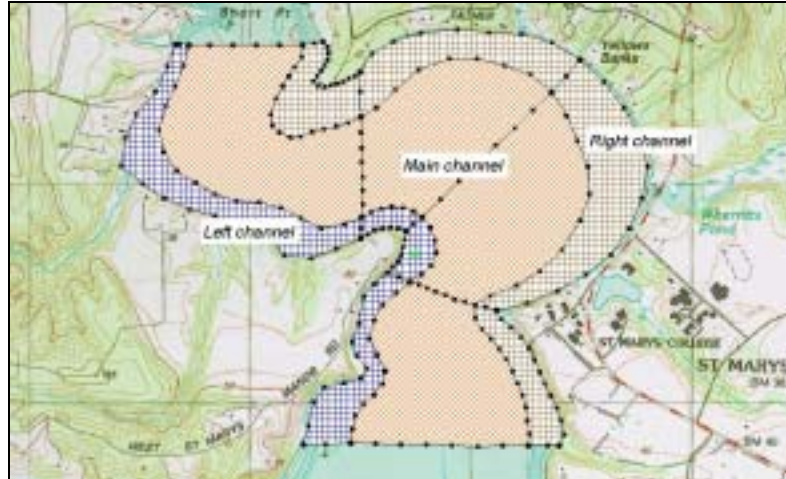

Figure 2-12 Polygons with defined material types.
3. In the *Feature Polygon Attributes* dialog, make sure the *Polygon Type/Material* shows the correct material for the polygon, as shown in Figure 2-12.